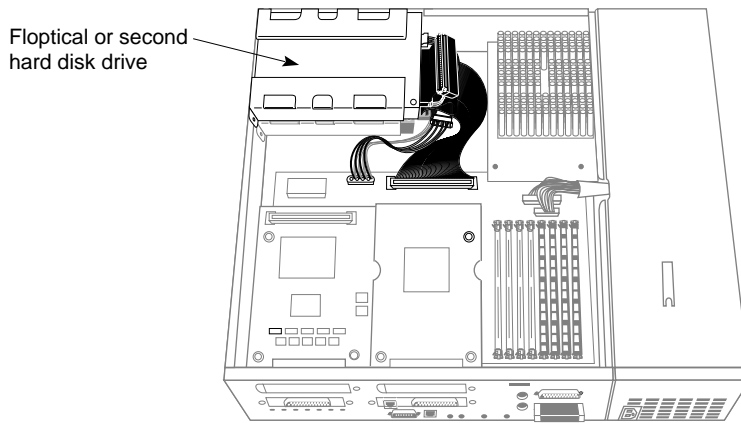

Figure 9-22 Locating a Floptical or Second Disk Drive Installed in the Top Slot
5. Locate the floptical drive or second disk drive (if installed) in the top drive slot, as shown in Figure 9-22. (This might also be a second hard disk drive.)